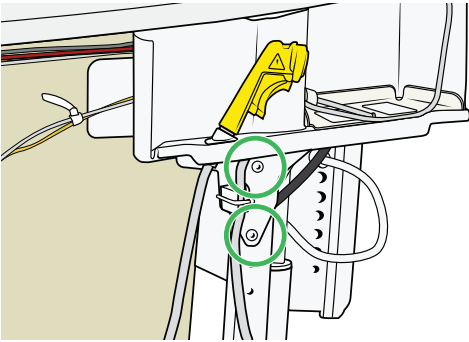

Figure 86
25. Attach the two screws holding the disinfection compartment. See Figure 86.